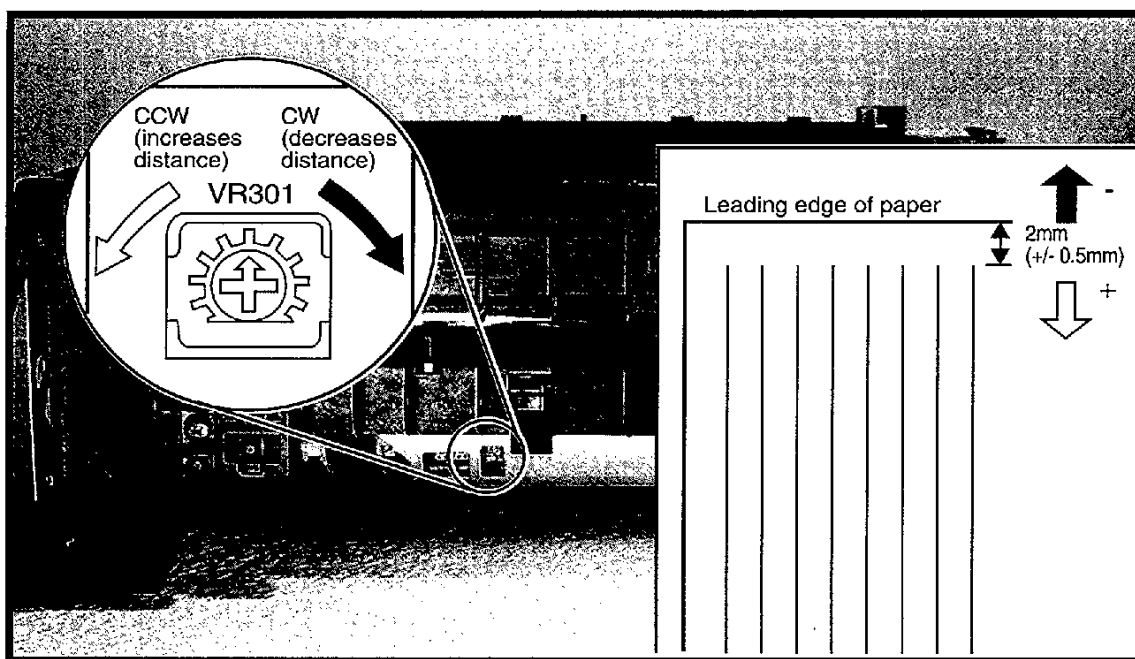

Figure 7-7 Leading Edge Adjustment
1. Run a printer engine test (see "Engine Test" earlier in this chapter). Measure the leading edge distance (see Figure 7-7). If the distance is 1.5 to 2.5 mm, no adjustment is necessary.
3. Locate the access hole for VR301 (see Figure 7-7).
4. Turn VR301 clockwise to decrease the leading edge distance, or counter-clockwise to increase (see Figure 7-7).
2. Use a pencil or pen to draw a horizontal line across the top of each vertical line on the test print image (see Figure 7-7).